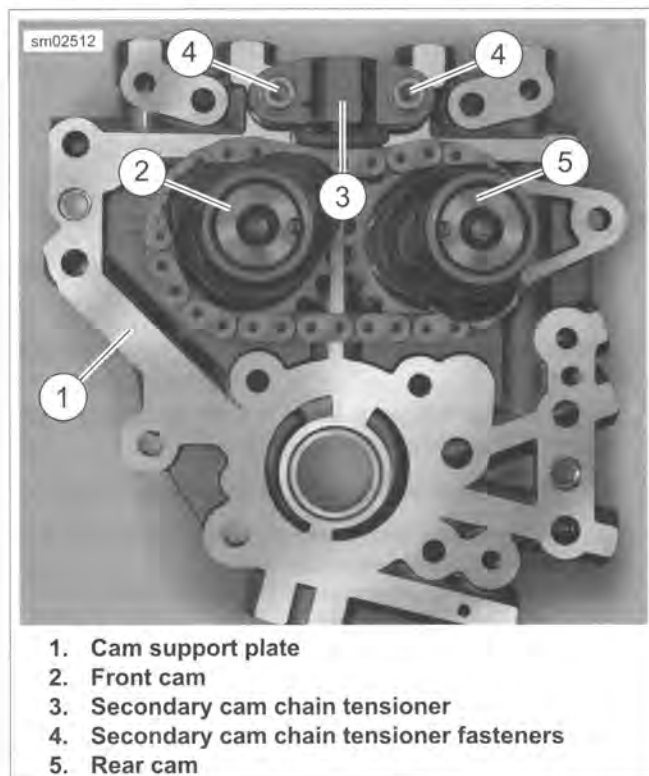

Figure 3-92. Camshafts
1. See Figure 3-92. Remove screws (4) and remove secondary cam chain tensioner (3).